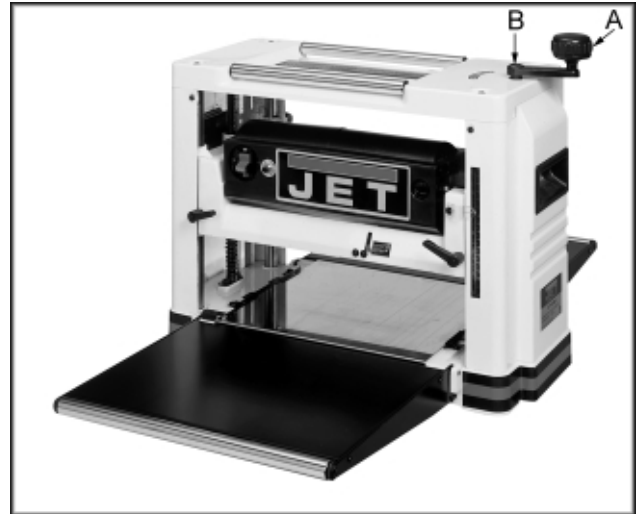

Fig. 1
2. Attach the handle assembly (A, Fig. 1) to the planer with one 6mm x 16 hex socket cap screw (B, Fig. 1) and one 6mm lock washer.